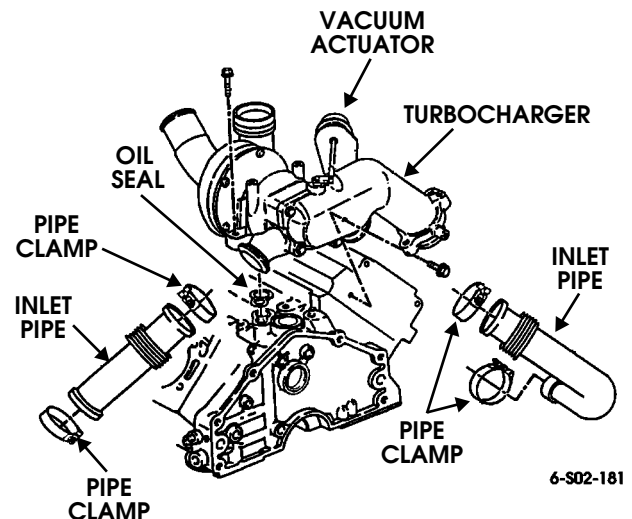

Figure 2-11: Turbocharger Mounting
8. Lift, turn and tilt turbocharger to remove it (Figure 2-11). Do not pry or force it off the engine.